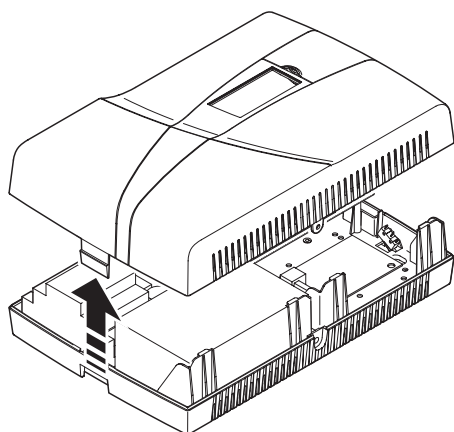

fig. 2
- lift the Control Panel cover upwards (fig. 2).